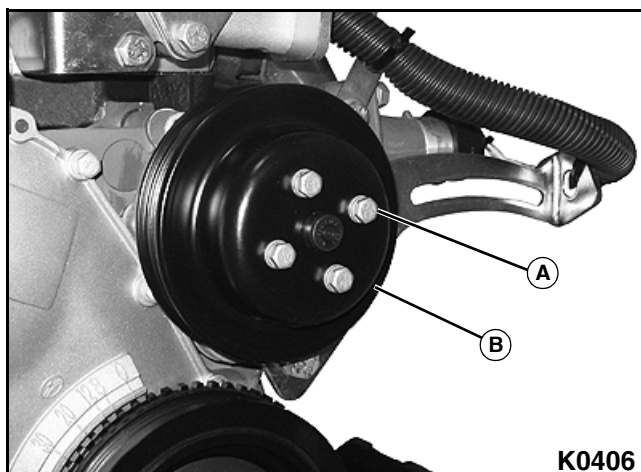

Figure 3-1
3. Remove four water pump drive pulley mounting bolts, flat washers, and lock washers (A). See Figure 3-1.
4. Remove water pump drive pulley (B) from water pump.